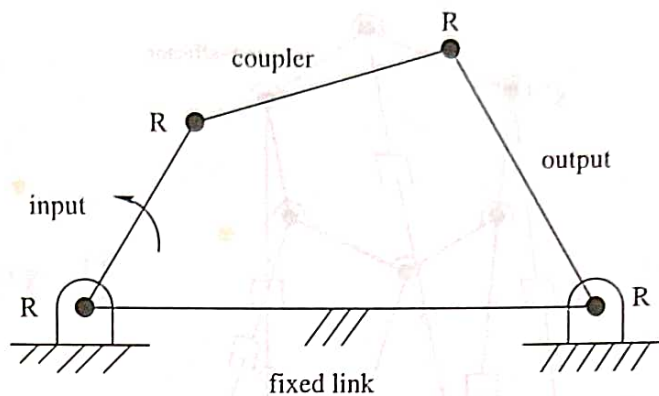

Figure 1.22: A four-bar mechanism.
13. Fig. 1.22 shows the schematic view of a mechanism. Determine its dof. Make comments on the result.